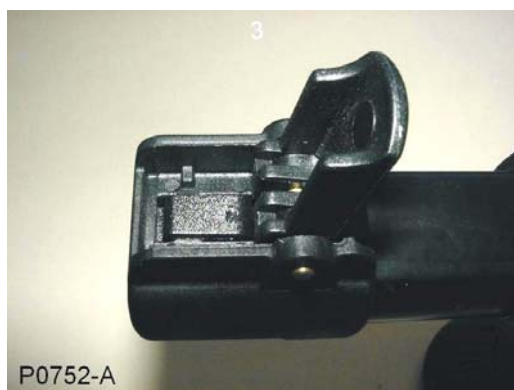

Figure 51: Reassembling Middle Camlock Assembly
- Refit the cam lever and cam lever pivot pin. (Figure 51)